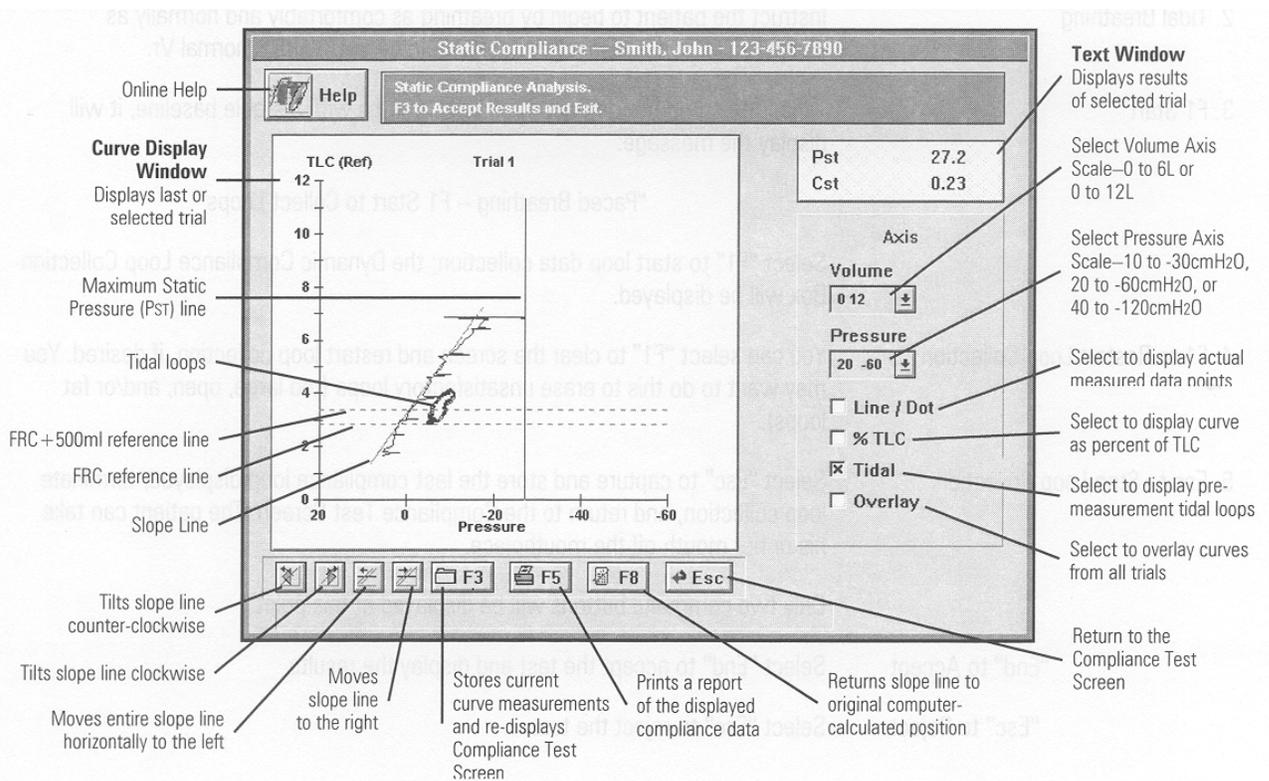

Figure 7-3 – Static Compliance Review Screen
1. Select **F7** from the **Static Compliance Test** screen to access the **Static Compliance Review** screen (Figure 7-3).